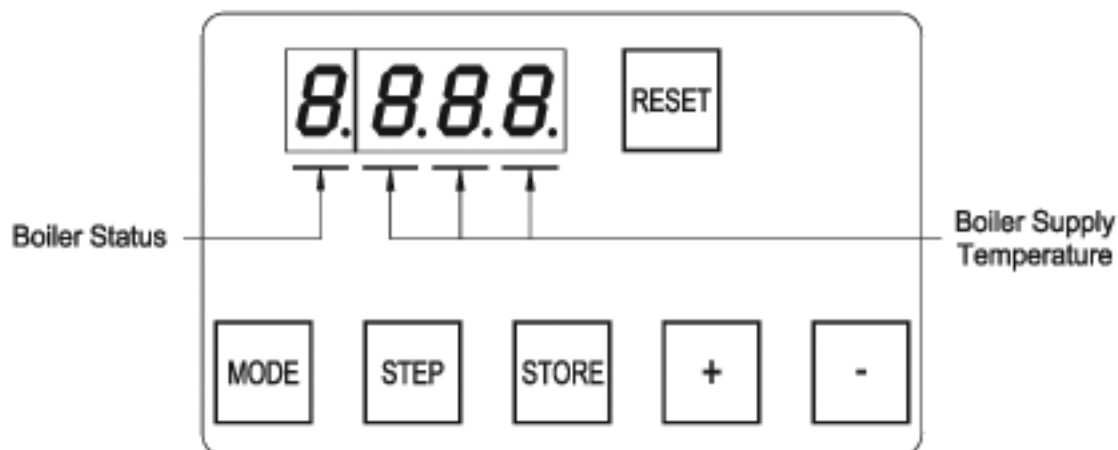

Figure 12.1: Normal Display In Standby Mode
Under normal conditions, the boiler is in standby mode and the display looks like that shown in Figure 12.1. The three digits to the right of the decimal point are the boiler's supply temperature. The digit to the left of the decimal point is the boiler's status code. A list of status codes, and their meanings, is shown in Table 12.3. Figure 12.2 is a map of the menu structure for the control panel. Push the mode key to move from one mode to the next. As you change modes, the mode you are entering is shown on the display:
- c) "Stby" for Standby Mode. Upon entering standby mode, "Stby" will briefly appear on the display and then the display will show the boiler's status along with the supply temperature (Figure 12.1).